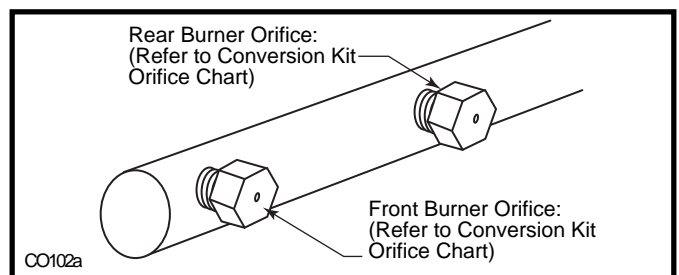

Fig. 60 Burner orifice replacement.
2. Remove burner orifice from manifold assembly using 3/8" wrench. (Fig. 60)